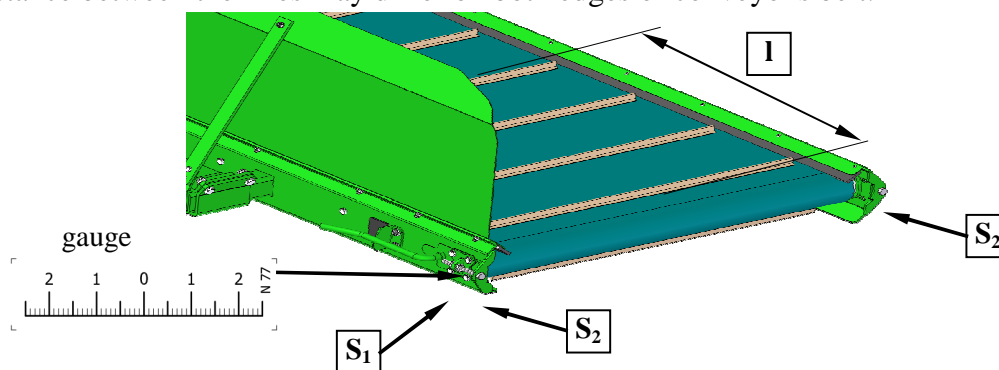

Fig. 33.
1. Mark two lines on newly mounted belt in intervals of $l = 3.9''$ (**Fig. 33**).